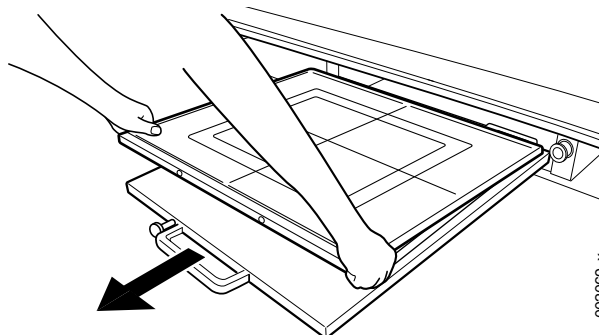

Fig. 4-54 Detector removal
2. Remove the detector by pulling it toward you according to **Fig. 4-54**.